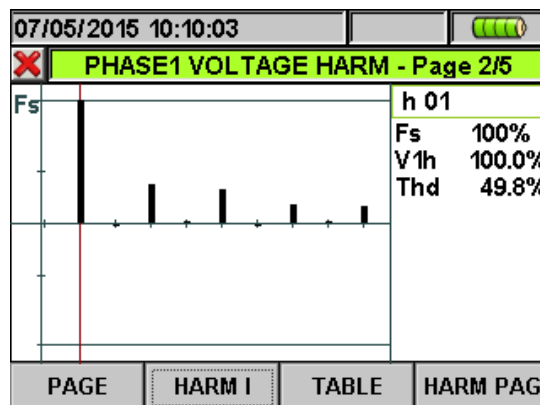
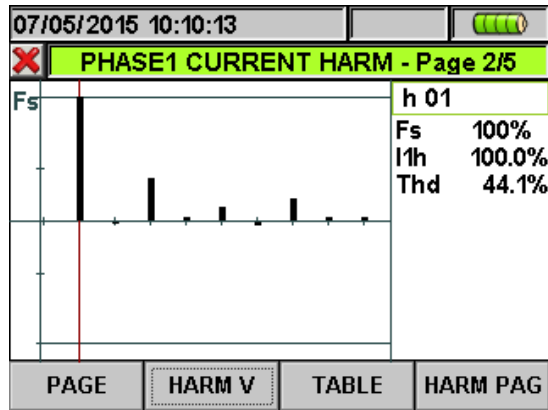

Fig. 36: Harmonic analysis voltage V1 in percentage values for 4-wire system
Fig. 37: Harmonic analysis of current I1 in percentage/absolute values for 4-wire system
- Harmonics values of single V1, V2, V3 voltages and neutral voltage Vn and single currents I1, I2, I3 and neutral current In (for three phase 4-wire system) with THD% values both with histogram graphics and with numerical values in percentage or absolute value depending on the desired settings. These values are shown in four pages selectable by pressing cyclically the **F1** key (or touch the "PAGE" at display). On Fig. 36 and Fig. 37 are display as an example, the situation relative to L1 phase for voltage and current on 4-wire systems is shown in the next pictures: